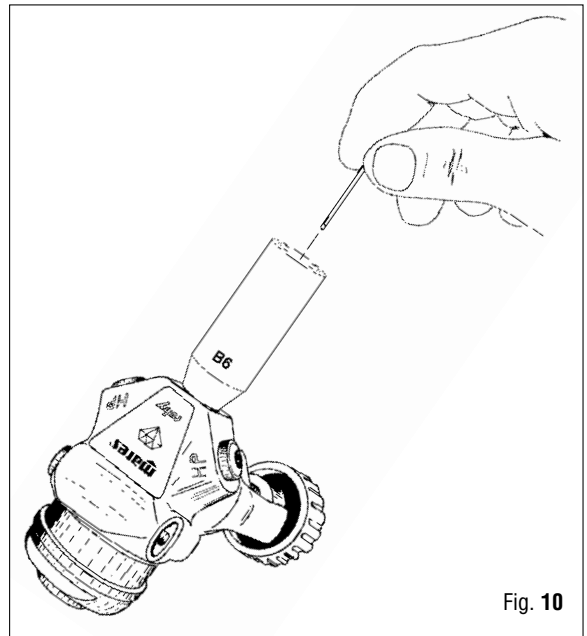

Fig. 10
12. Insert poppet pin (12) into poppet seat (75) using the special tool (B6) (Fig.10).